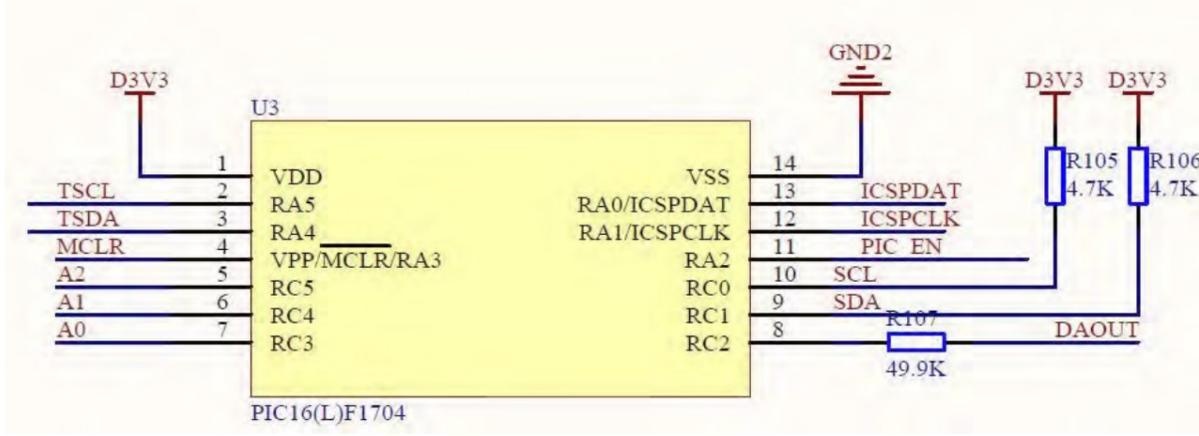

Fig 13. PIC Schematic Diagram
5. DC-PIC: Composed of PIC16(L)F1704. See Fig 13 and Fig 14: